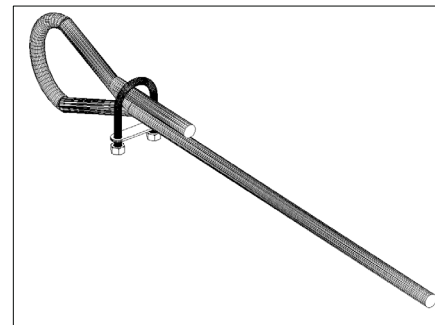

figure 3
4. Route 1 end of the lift cable through the chain link welded to the brush head assembly upright. Loop the loose end around and secure it with a cable clamp (figure 3).